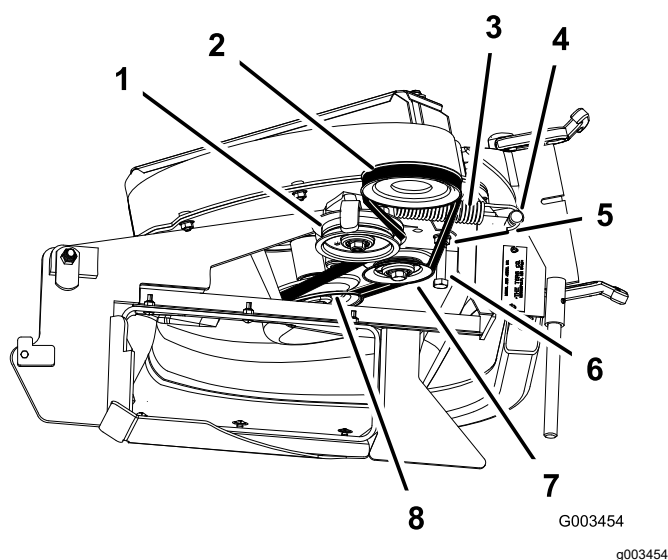

Figure 41
3. Loosen the belt guide bolt (Figure 41).
5. Install the new belt around the blower pulley (Figure 41).
7. Tighten the belt guide bolt (Figure 41).
9. Install the belt onto the spring-loaded idler pulley (Figure 41).